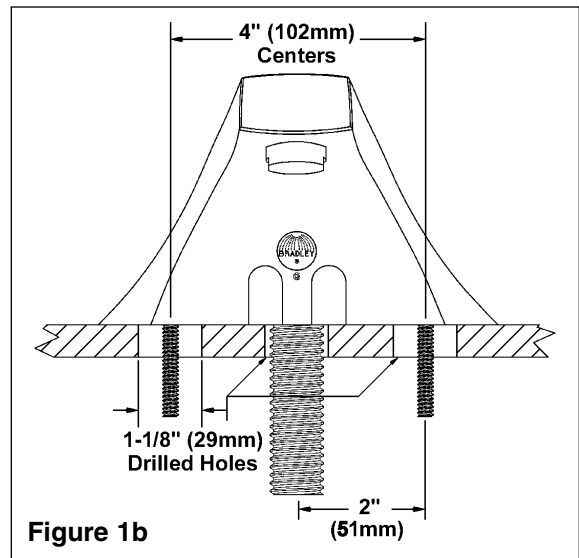

Figure 1b
2. Drill three 1-1/8" diameter holes in the locations marked in #3 (see Figure 1b).